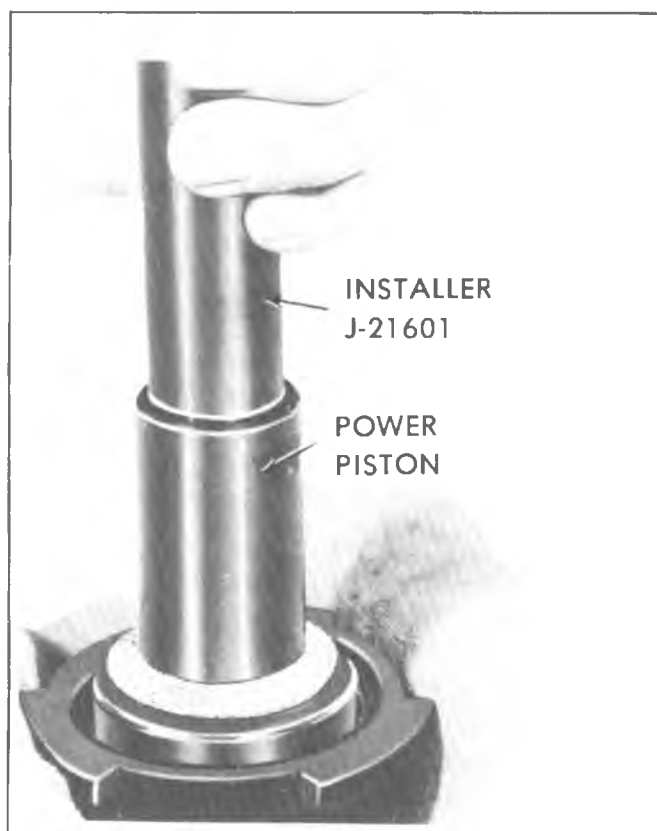

Fig. 5-13C--Installing Floating Control Valve Assembly
10. Start floating control valve and its retainer into power piston tube. Press the floating control valve to seat in the tube, by placing J-21601-01 Floating Control Valve Retainer Installer on top of retainer and pushing down by hand (fig. 5-13C).